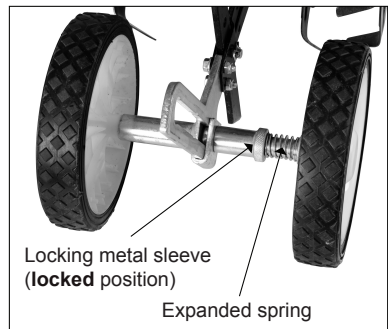

Fig.3
- A. Pull the locking metal sleeve against the spring, away from the wheel adjuster plate (No.11) until it releases from one of the three grooves in the wheel adjuster plate (No.11). Fig 3